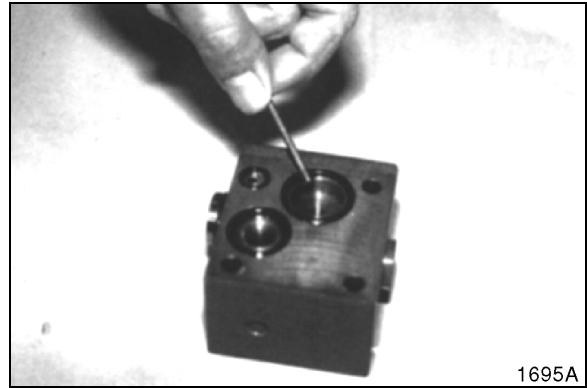

Figure 101
10. Install orifice in cover and torque to 0.32 – 0.4 kg m (2.31 – 2.90 ft lb). See Figure 101.